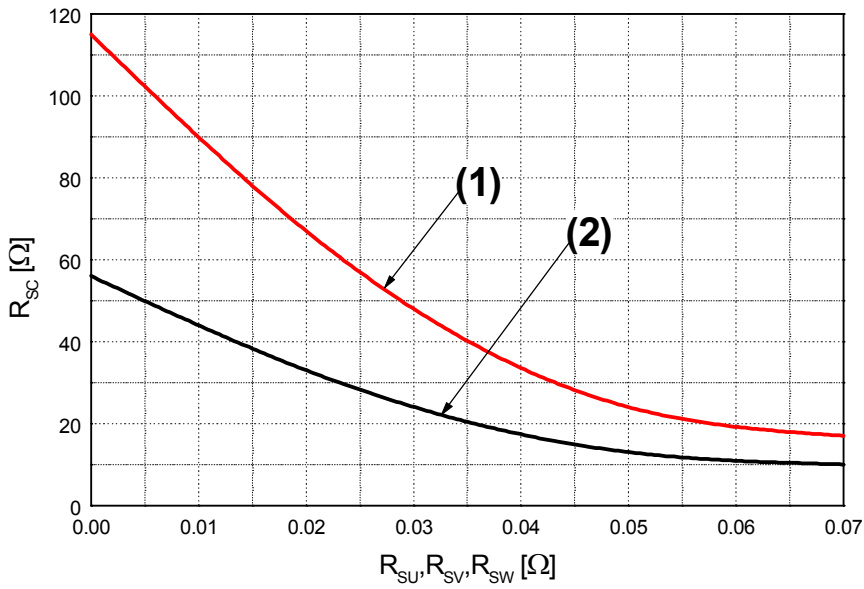

Fig. 7. R_{sc} Variation by change of Shunt Resistors (R_{SU}, R_{SV}, R_{SW}) for Short-Circuit Protection
5. Short-circuit current protection is functioning only at the low-sides. It would be recommended that the value of the external sensing resistor (R_{SC}) should be selected around 56 Ω in order to make the SC trip-level of about 30 A at the shunt resistors (R_{SU}, R_{SV}, R_{SW}) of 0 Ω. For the detailed information about the relationship between the external sensing resistor (R_{SC}) and the shunt resistors (R_{SU}, R_{SV}, R_{SW}), please see Fig. 7.